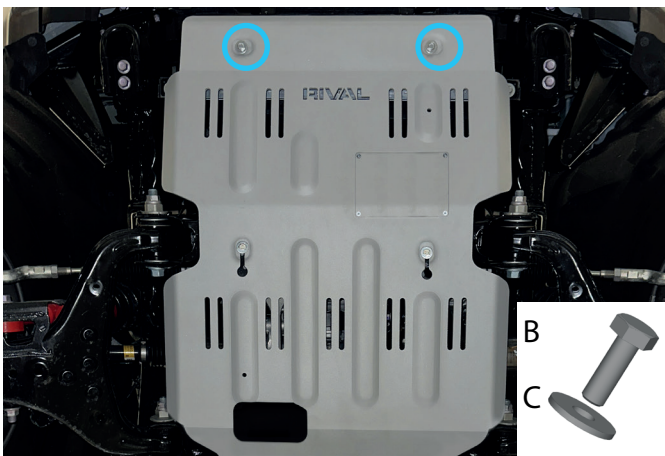

Fig. 8
8. Fix front part of engine skid plate using bolts M8x25 (item B) and washers 8 (item C) as shown in fig.8.